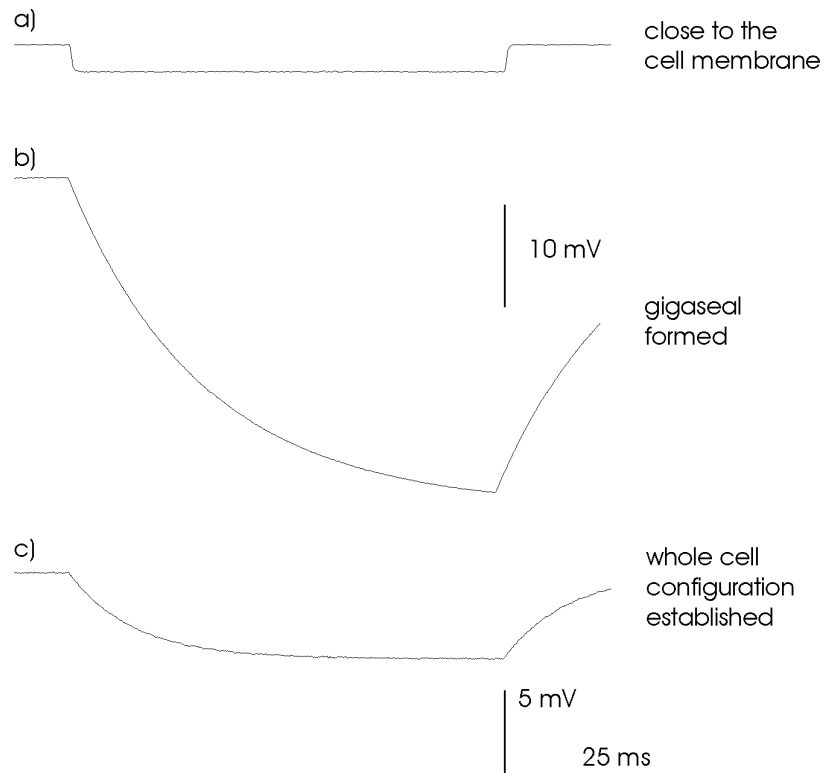

Figure 15: Approaching the cell, forming a gigaseal and establishing the whole cell configuration
- ☐ Approach the cell until the voltage signal changes (**a**, Figure 15). Often you can observe a slight dent in the cell membrane.
- ☐ If the seal does not form apply gentle suction to the pipette until a gigaseal is established (**b**, Figure 15).
- ☐ Apply stronger suction to the pipette or carefully use the BUZZ unit to brake the cell membrane under the pipette and establish the whole cell configuration. The whole cell configuration is established, if you see the voltage signal getting smaller again (**c**, Figure 15) and you read the expected membrane potential.